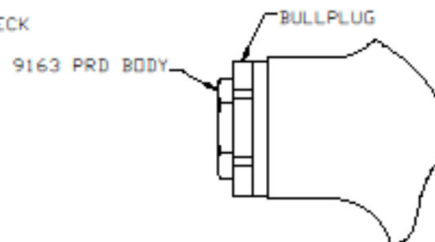

FIGURE 2
3. Screw 9163 body in bullplug. SEE FIGURE 2